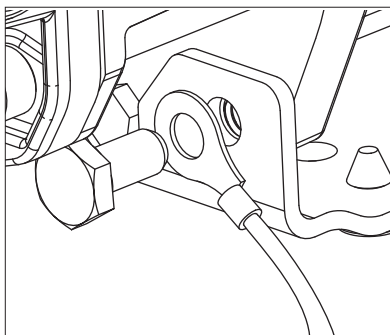

Figure 3
1. Remove one of the 1/4-20 x 1/2 in. hex head screws and install the ground wire ring terminal (see Figure 3).